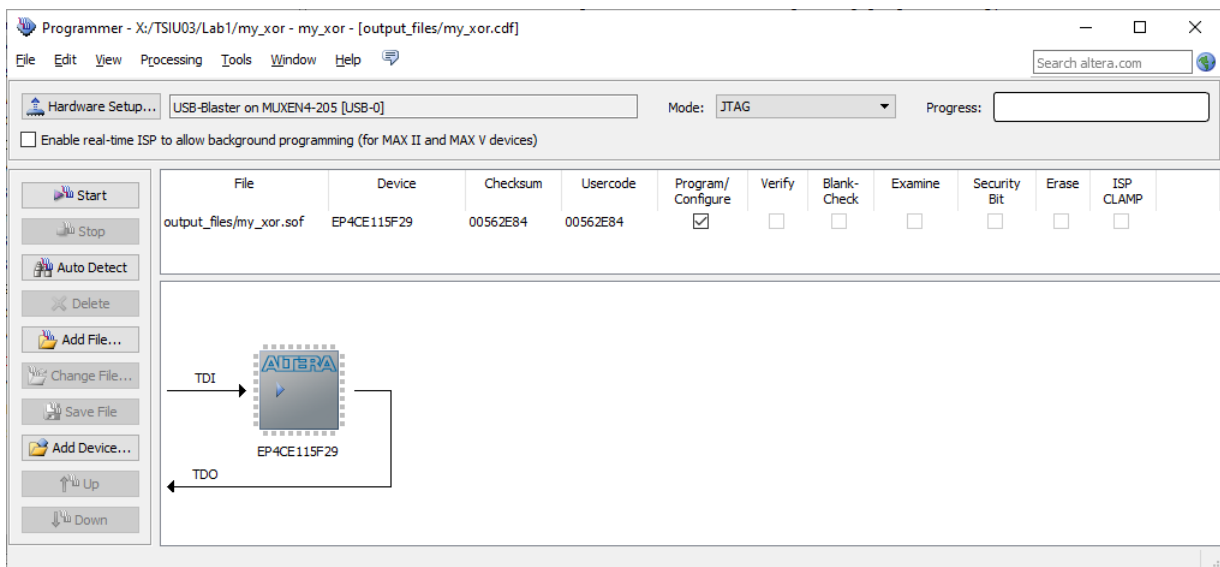

Figure 4: The programmer, after setup of everything.
- [Close] \implies *The Programmer is shown in Fig. 4.*